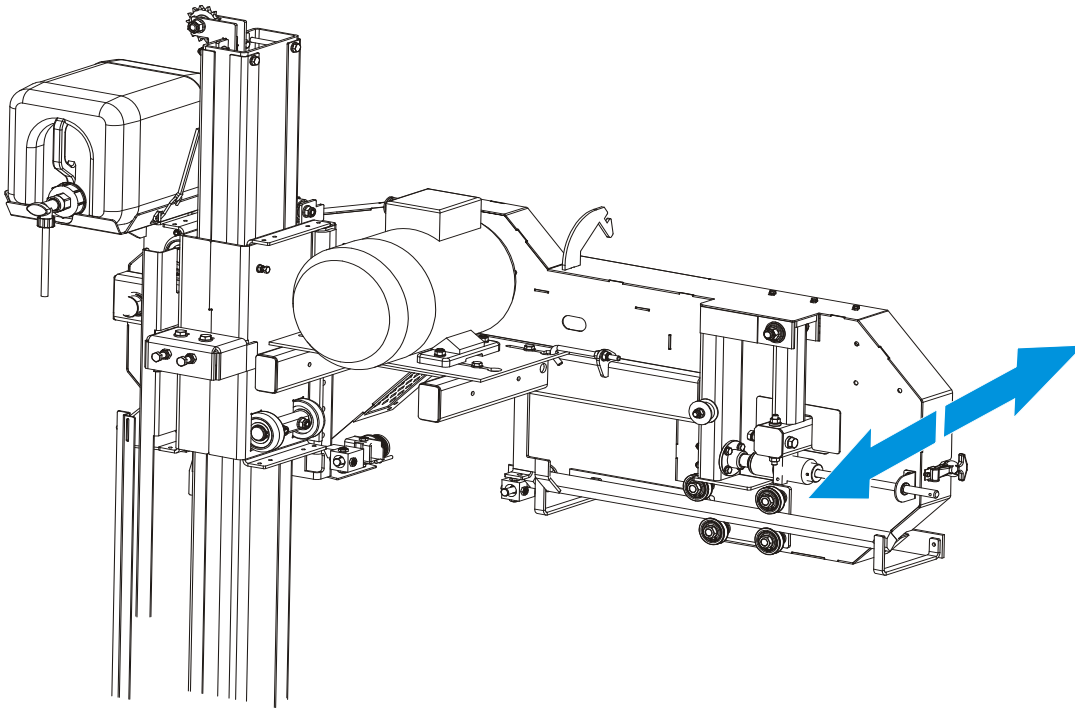

FIG. 5-18
See Figure 5-18. To check if the backlash is present, grasp the outside part of the saw head and move it as shown in the figure below. To remove the backlash, perform the following steps:
1. Loosen the nuts on the adjustment bolts and the set screws shown in Figure 5-18, adjust the mast guide rollers as shown in Figure 5-18.